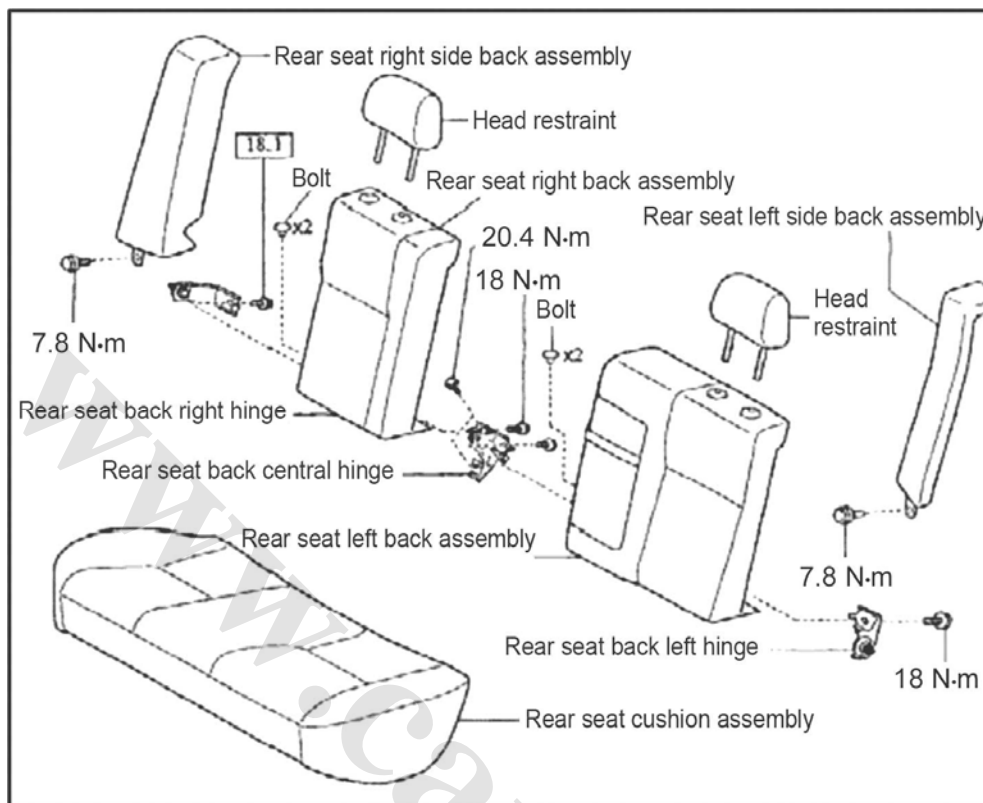

Fig. 7-9
1. The assembly structure as shown in Fig. 7-9.